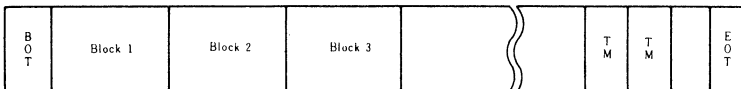

Figure 7-1. Magnetic Tape Format
The end of the file should be indicated by 2 successive tape marks (TM) (figure 7-1).